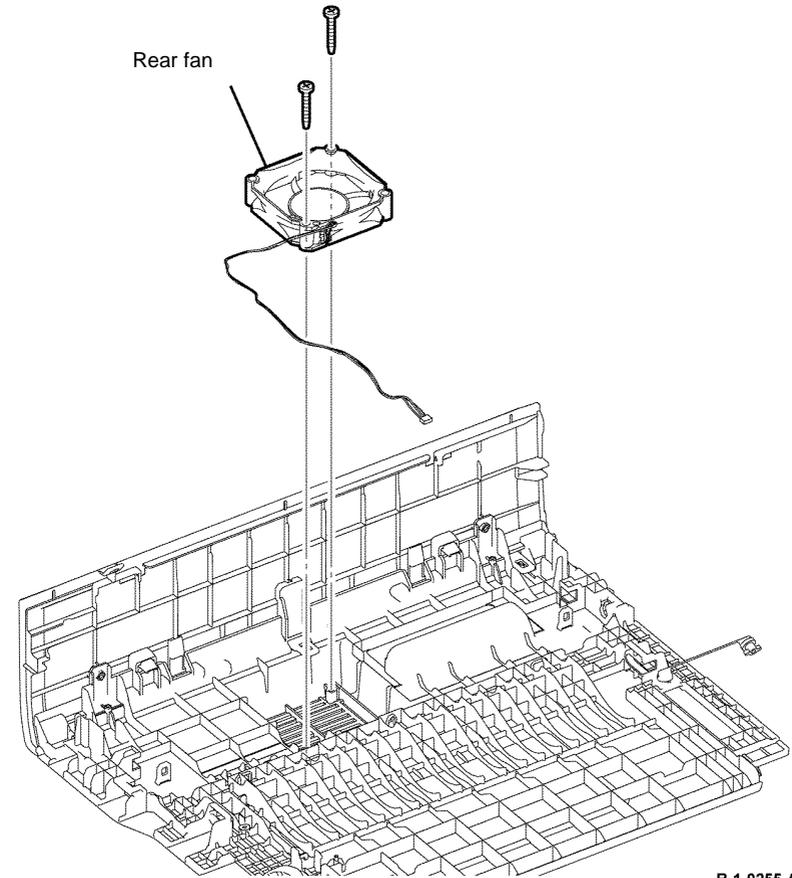

Figure 3 Rear fan removal
7. Remove two screws (silver, tapping, 22mm) that fix the rear fan. Release the harness from the harness guide, then remove the rear fan, Figure 3.